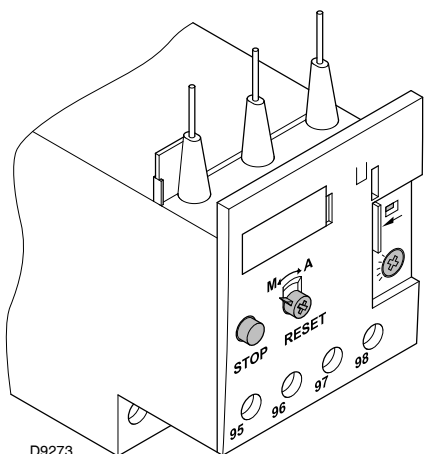

Fig. 21
The electro-mechanical thermal relay (Fig. 21) is used to avoid damage to the motor owing to a strong increase in absorption or the lack of a phase.
- To reset, in the case of an intervention of the thermal relay, press the button “RESET” (Fig. 21).
- The button “STOP” (Fig. 21) opens the NC (95-96) contact and stops the motor.